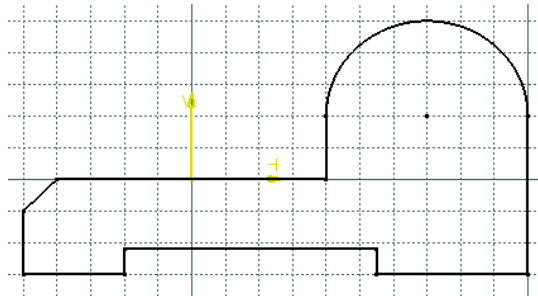

Figure 1-35 Outer loop of the sketch
- Draw the sketch of the model using the **Line**, **Arc**, and **Circle** tools, refer to Figures 1-35 and 1-36.
The outer loop of the sketch is completed and is shown in Figure 1-35. The display of the constraints is turned off using the **Hide/Show** tool.